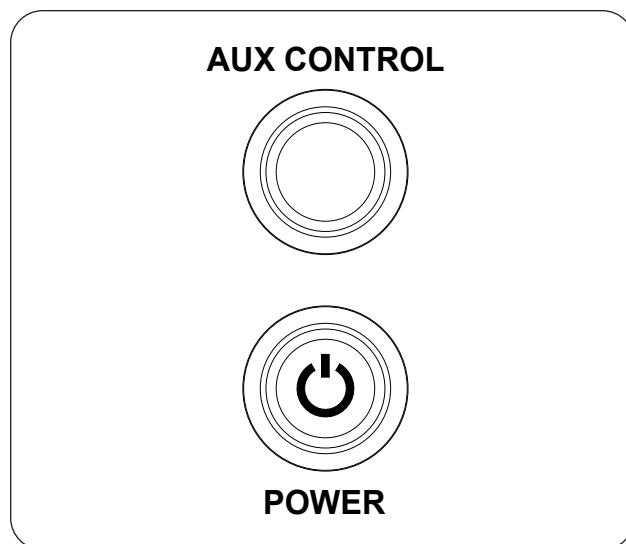

Fig. 41-1 Manual Operation:
1. Locate the control panel on the side of the unit (refer to the IDENTIFICATION PARTS LIST if needed), and identify the **AUX CONTROL** and **POWER** buttons (see Fig. 41-1).
To shut down the burner (system will remain on), push the **AUX CONTROL** button (see Fig. 41-1).
To shut down the burner and system (total shutdown), push the **POWER** button (see Fig. 41-1).